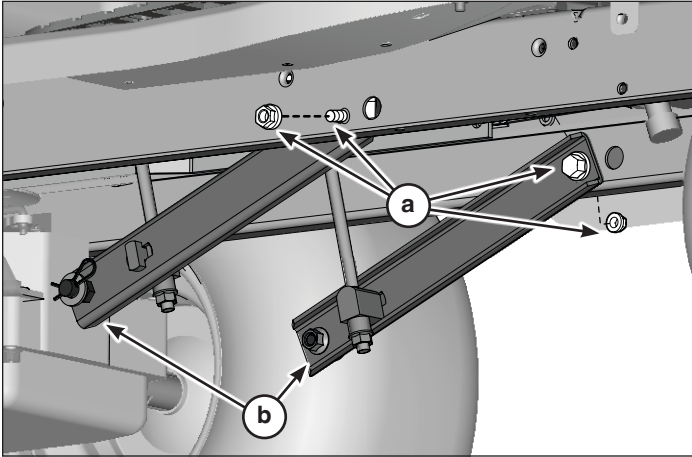

Figure 1
1. Remove the nuts and bolts (a, Figure 1) from the right and left mower lift arms (b). Keep the nuts and bolts for Step 2.